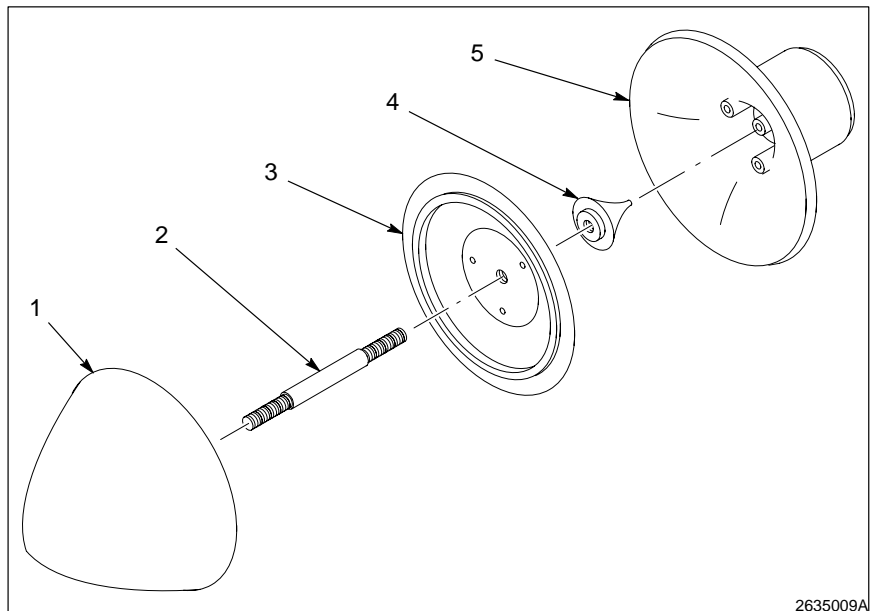

Fig. 5-1 Nose Cone Assembly
2. See Figure 5-1. Remove the nose cone assembly by rotating it counterclockwise while facing the front of the powder bell.